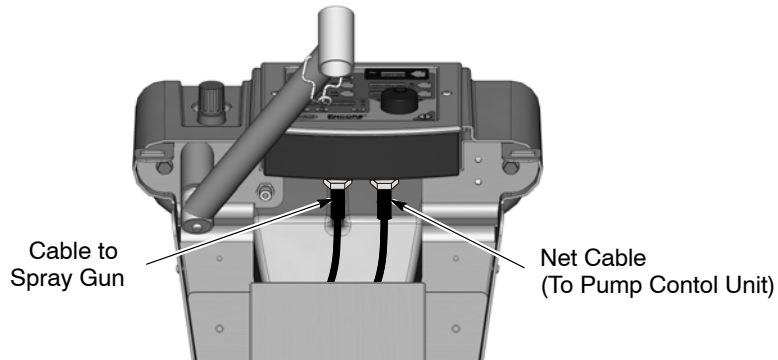

Figure 3-4 Spray Gun Cable Connection to System Controller – Mobile System Shown
1. Mobile System: See Figure 3-4. Feed the spray gun cable into the back of the dolly tower and up through the top front. This will allow the user to bundle the cable with the pattern and electrode air wash tubing.